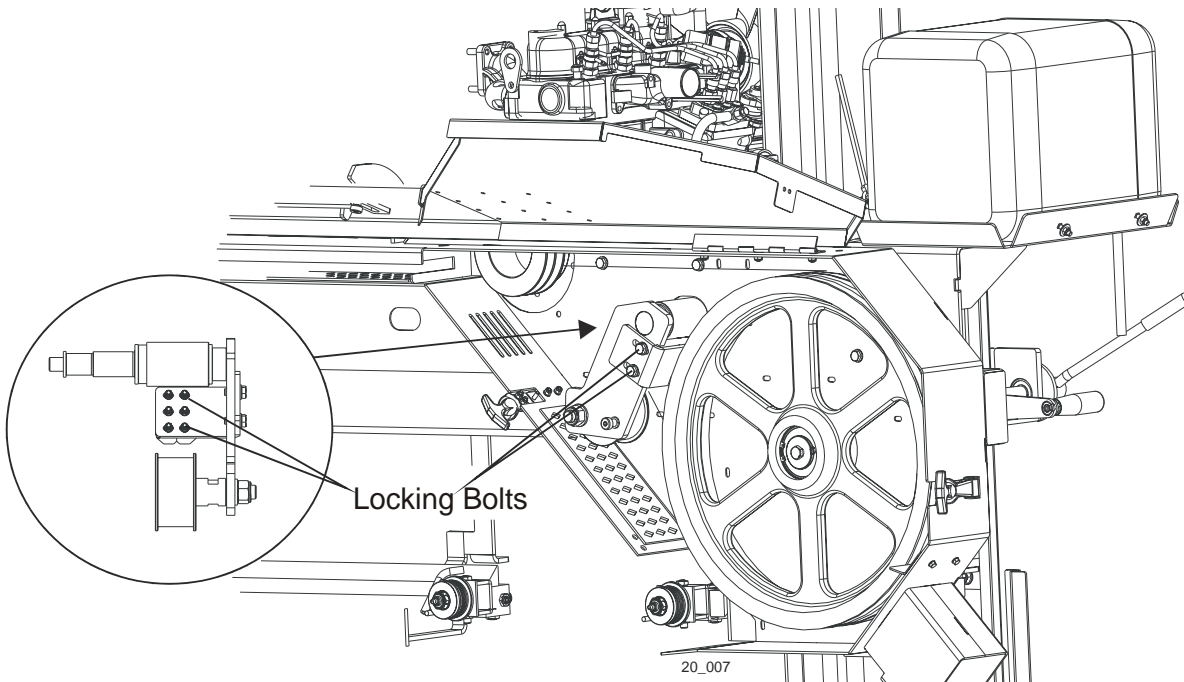

FIG. 3-4
**See Figure 3-4.** Loosen the locking bolts shown below. Adjust the brake pads so the blade stops no more than 10 seconds after disengaging. The brake pads should enter the grooves in the drive pulley